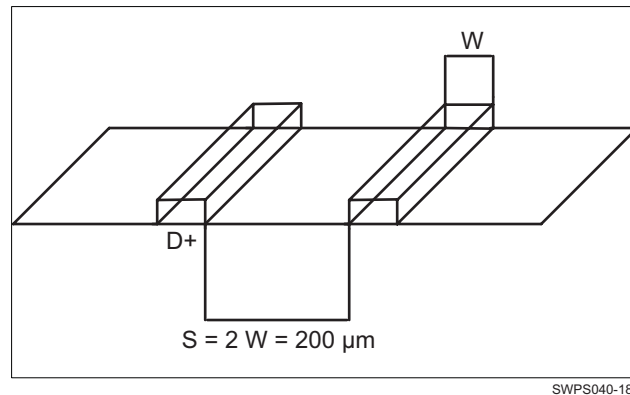

Figure 7-28. Ground Guard Illustration
- For a line width equal to W , the spacing between two lines must be $2W$, at least. This minimizes the crosstalk between switching signals between the different lines. On the PCB, this is not achievable everywhere (for example, when breaking signals out from the device package), but it is recommended to follow this rule as much as possible. When violating this guideline, minimize the length of the traces running parallel to each other (see Figure 7-28).